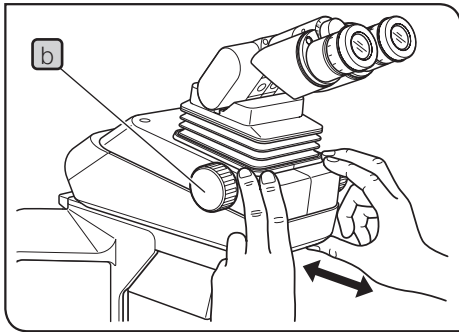

Fig.31
- When adjusting front-rear position of the observation tube, hold the base of the observation tube as shown in Fig.31.